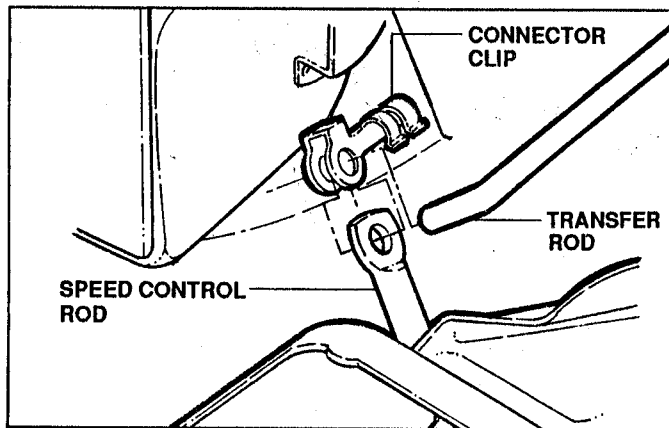

FIGURE 3.14
- Using a small flat blade screwdriver, free the clip from the transfer rod. Then remove the transfer rod from the clip and the speed control rod. See Figure 3.14.